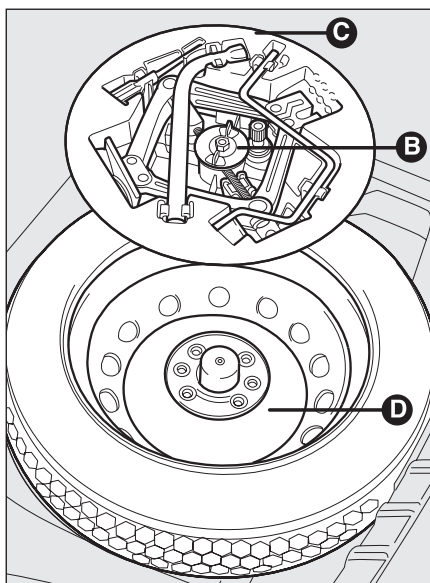

fig. 3
- loosen the fastener **B**-fig. 3;
- stow the small spare wheel **D**-fig. 3 in the space provided in the boot;